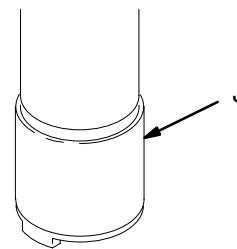

Fig. 4
Cycle the pump slowly for at least 5 minutes, then stop and disconnect the air hose. Push up on the ball of the intake valve (J) to drain the lower part of the pump. See Fig. 4. Turn the pump over to drain the upper part of the pump.